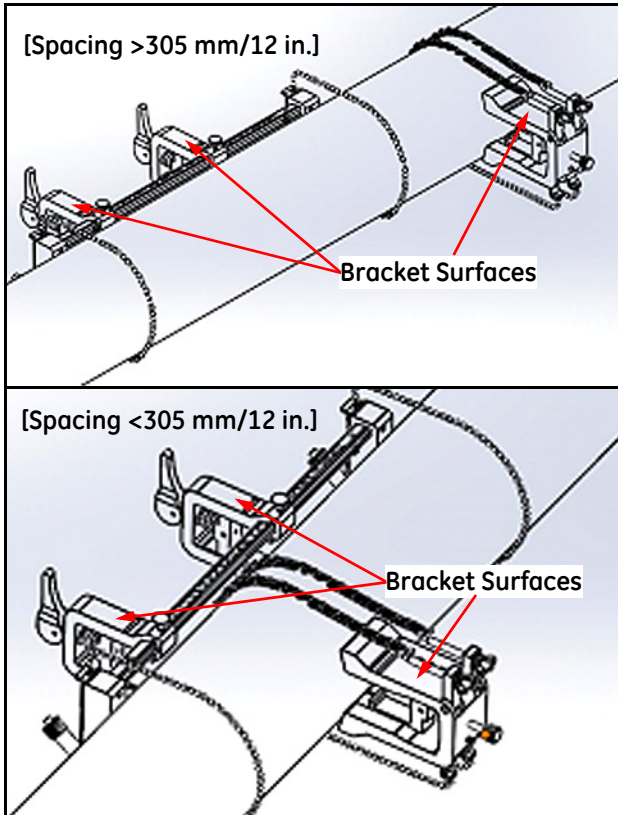

Figure 28: Yoke Rotated into Horizontal Position
4. Rotate the yoke until it is located in a horizontal position on the opposite side of the pipe from the previously installed clamping fixture, as shown in *Figure 28* below.
5. Ensure that the top surfaces of the yoke bracket and the clamping fixture brackets lie precisely in the same horizontal plane (see *Figure 28* above). Place the fixed clamp in the clamping fixture at zero on the scale.